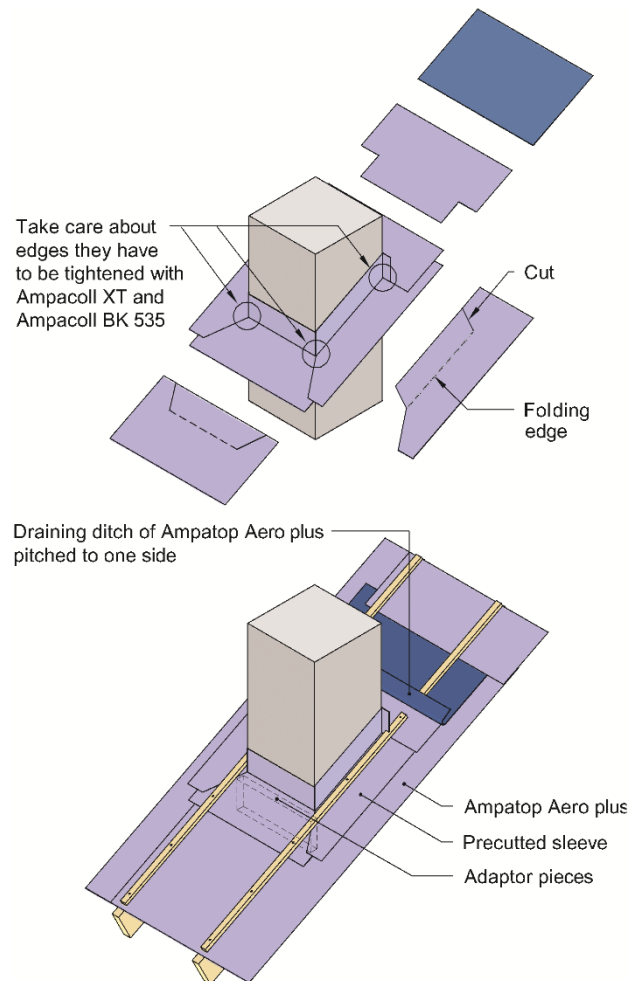

Fig. 4
3) Ampacoll Flexx Pro can be used in areas where water accumulation is usually not possible, like at pitched roofs or vertical surfaces as result of penetrations without horizontal obstacles for draining of water on the underlay. At the upper sealing of chimney additional actions must be taken. See also fig. 4.